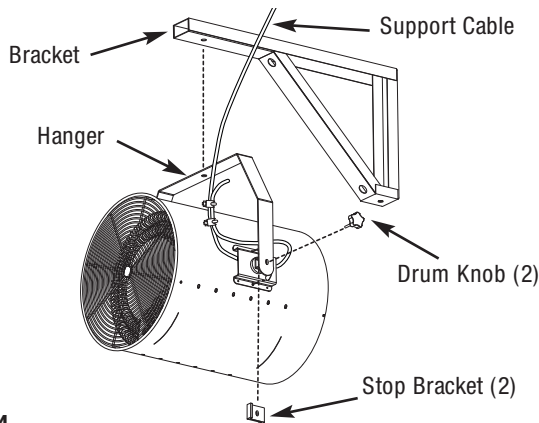

Figure 4
2. Assemble hanger to heater as shown in Figure 4. Install the drum knob and stop brackets as shown.